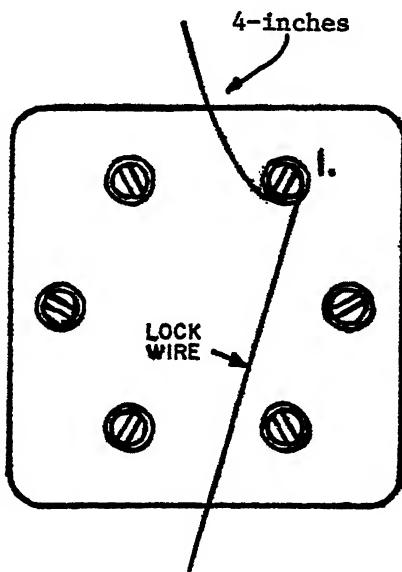

FIGURE 15
* Leave 4 inches of wire on the left side of the screwhead, bend this up toward the top of the plate. See figure 15.
b. Bend the long strand down tight against the screwhead, keeping metal-to-metal contact. See figure 15.